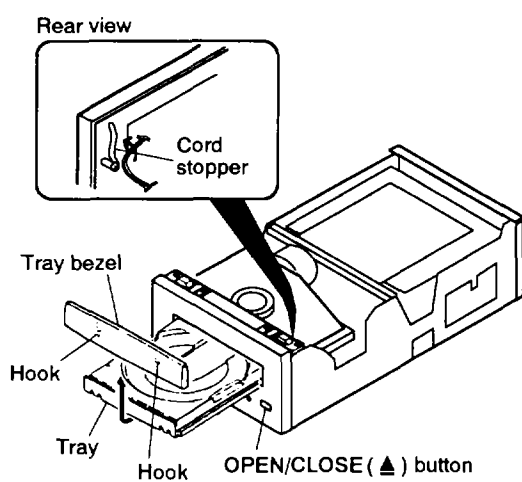

Fig. 1
• Disassembling the Front Panel (Fig. 1 and 2)
2. Press the OPEN/CLOSE (▲) button and pull out the tray. (Fig. 1)
3. Remove the tray bezel. (Lifting up the tray bezel by pushing two hooks.) (Fig. 1)
4. Remove the lead wires from cord stopper. (Fig. 1)